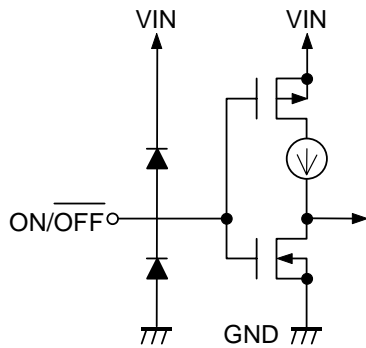

Figure 9
The structure of the ON/OFF pin is as shown in **Figure 9**. Since the ON/OFF pin is neither pulled down nor pulled up internally, do not use it in the floating state.
- The ON/ $\overline{\text{OFF}}$ pin is configured as shown in **Figure 9** and is neither pulled up or down internally, so do not use this pin in a floating state. When not using the ON/ $\overline{\text{OFF}}$ pin, connect it to the VIN pin.